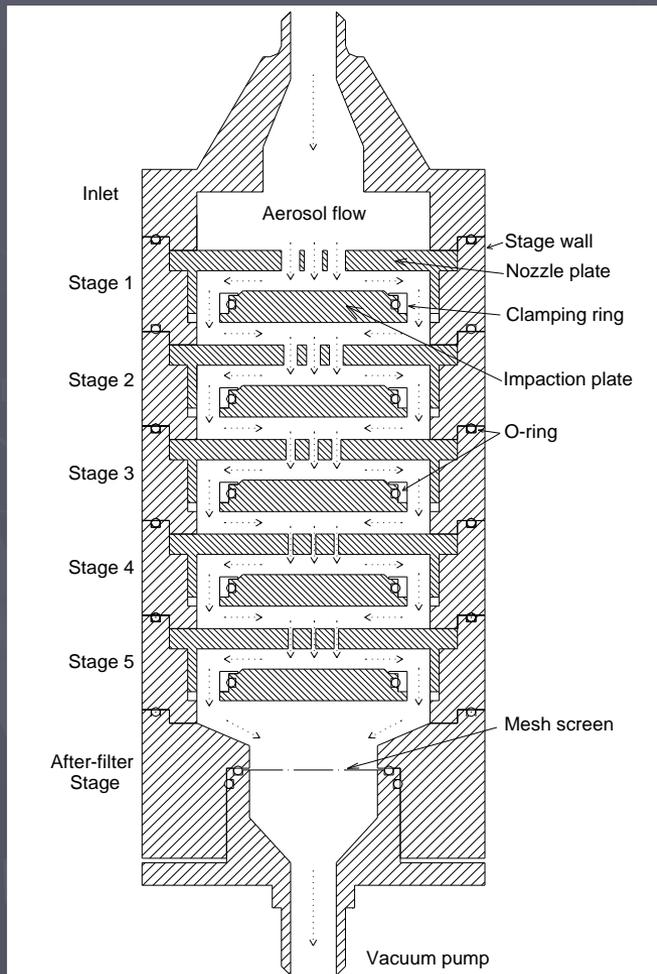

**FIGURE 5.9** Continued.
**FIGURE 5.9** Cascade impactor (a) Schematic diagram. Reprinted with permission from *Aerosol Measurement*, by Dale Lundgren et al. Copyright 1979 by the Board of Regents of the State of Florida. (b) Eight stage Anderson ambient cascade impactor with nozzle plate and impaction plate shown at left.